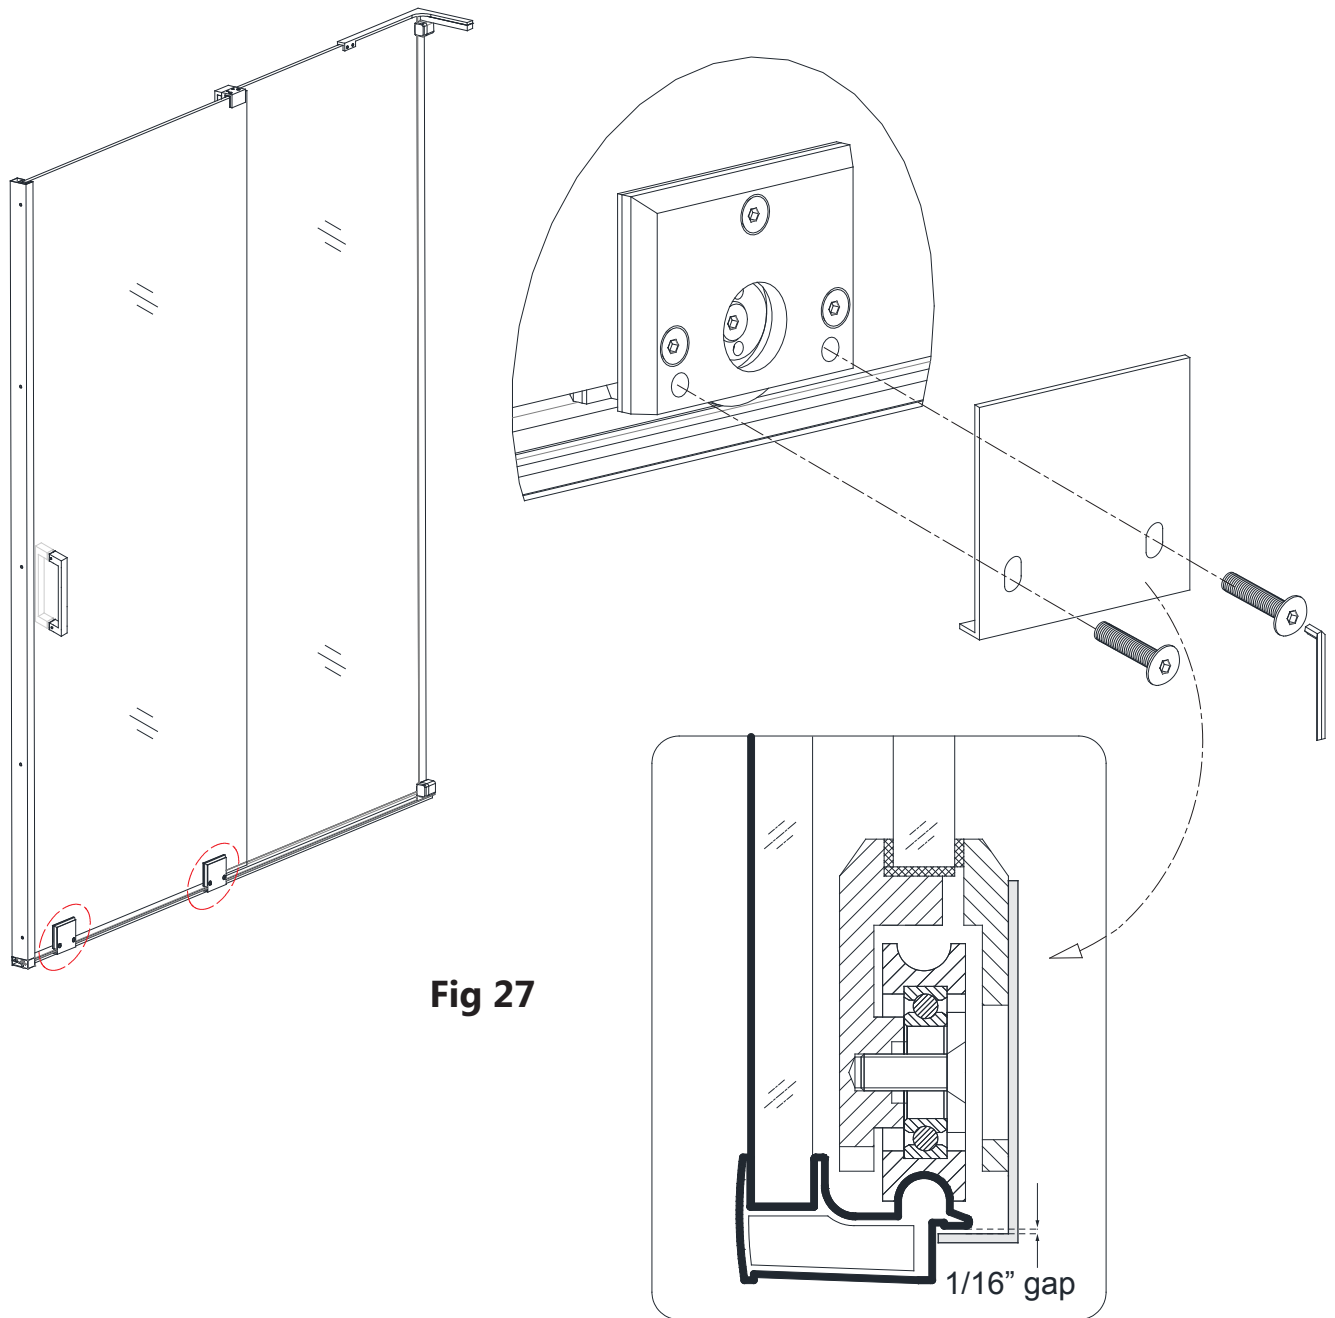

Fig 27
27. Attach the roller **Cover Plate (#10.8)**, leaving approximately **1/16"** of **clearance** beneath the bottom rail. Re-adjust the plate if it makes contact with the bottom rail. **(Fig 27)**